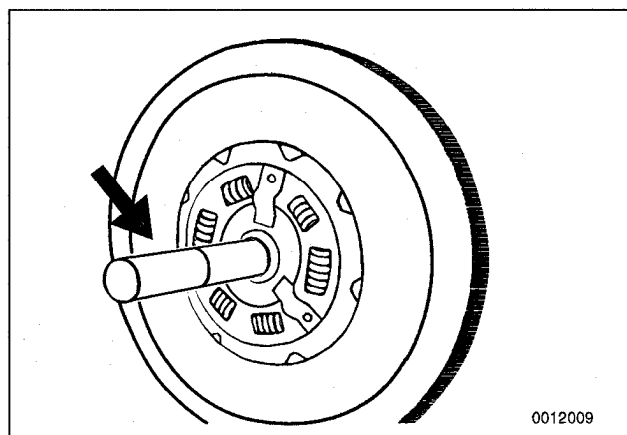

Fig. 7. Clutch centering tool (arrow) shown installed through clutch disc and flywheel.
6. Center clutch disc on flywheel using centering tool (BMW special tool no. 21 2 130 or equivalent). Refer to Fig. 7.
5. Install a clutch centering tool through clutch assembly to prevent clutch disc from falling out when removing pressure plate. See Fig. 7.